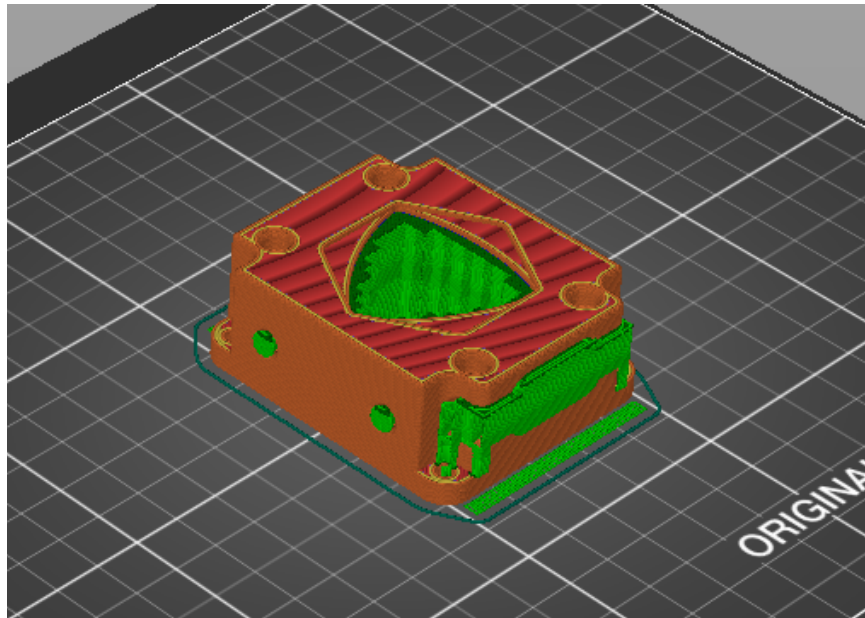

Figure 70: STL model of part *D405 Case* with support material in slicer
3. Print the *D405 Case* (Fig. 70) using the following settings: